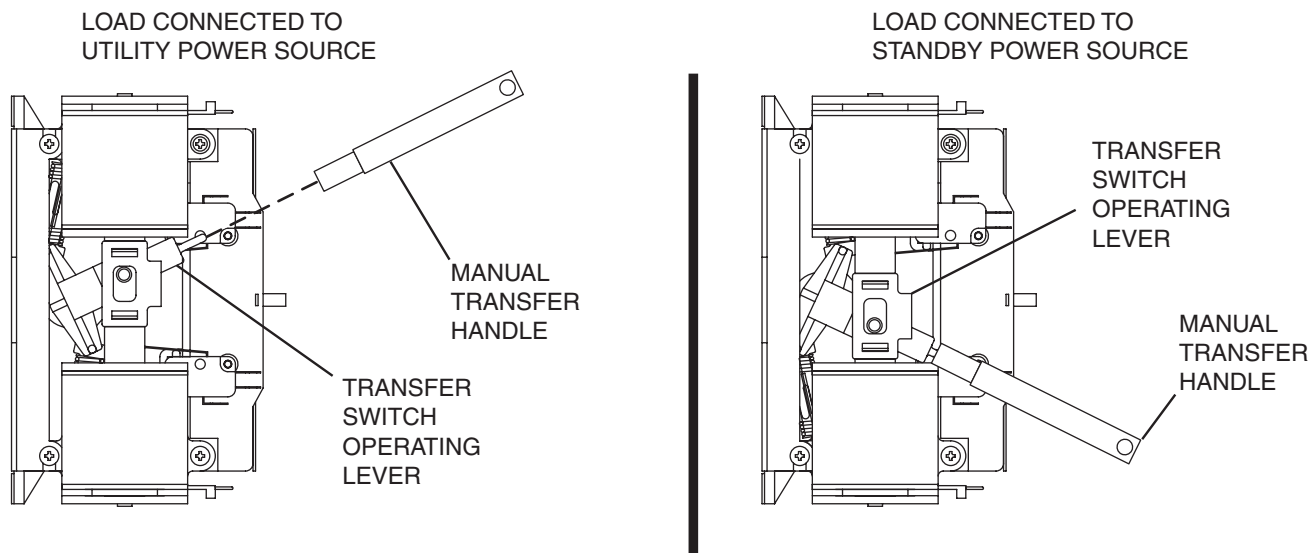

Figure 3. Manual Transfer Switch Operation
5. See Figure 3. Insert the un-insulated end of the handle over the transfer switch operating lever.